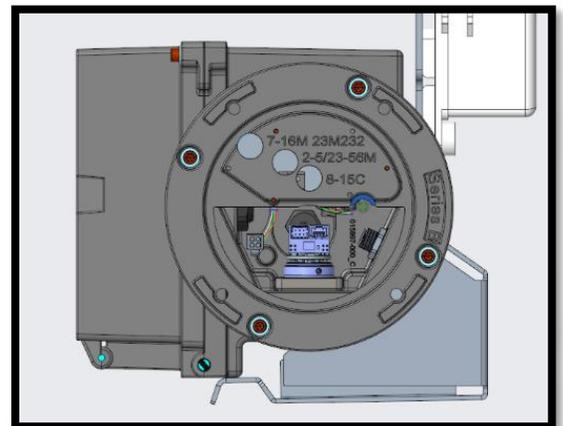

Figure 5: Side (Horizontal) inlet configuration
2. If the meter is to be installed in the side inlet (horizontal) configuration (refer to Figure 5), adjust the corrector's meter adapter plate position by performing the following steps: